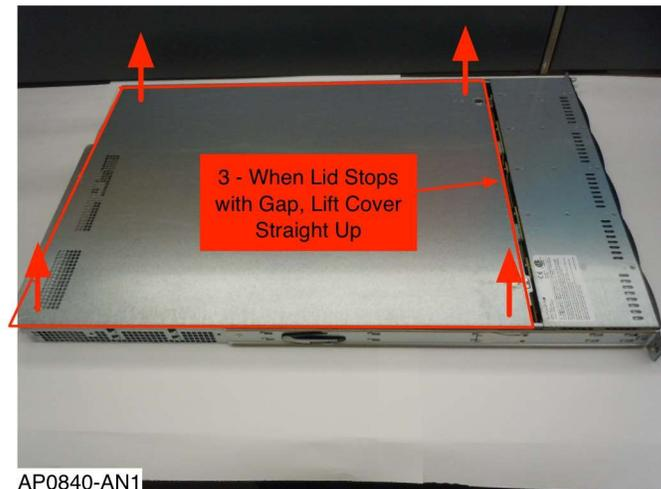

Figure 3: Removing Cover Step 3
- 1.3 When the lid stops going rearward, there should be a gap between the lid and the front top section of the server. Lift the cover straight up to completely remove. See Figure 3.